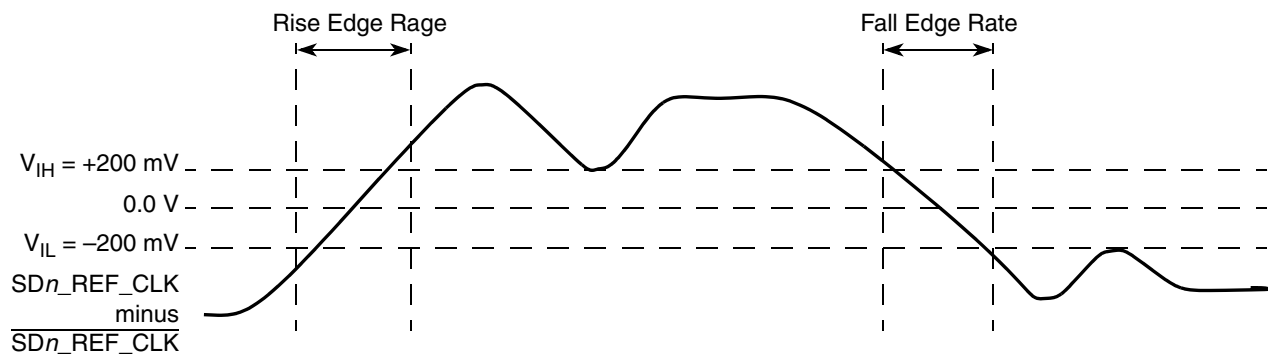

Figure 53. Differential Measurement Points for Rise and Fall Time
3. Measured from -200 mV to +200 mV on the differential waveform (derived from SDn_REF_CLK minus $\overline{SDn_REF_CLK}$). The signal must be monotonic through the measurement region for rise and fall time. The 400 mV measurement window is centered on the differential zero crossing. See Figure 53.